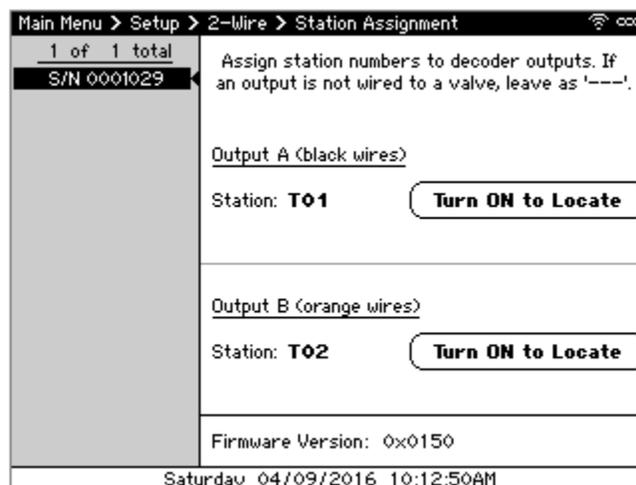

Figure 3 - Station Assignment screen
1. From the 2-Wire dialog, navigate to and select **Assign Stations to Discovered Decoder** if it doesn't automatically appear. The Station Assignment screen displays (Figure 3). The pane on the left displays the 2-Station and Moisture Sensor decoders discovered while the right shows each's station assignments.